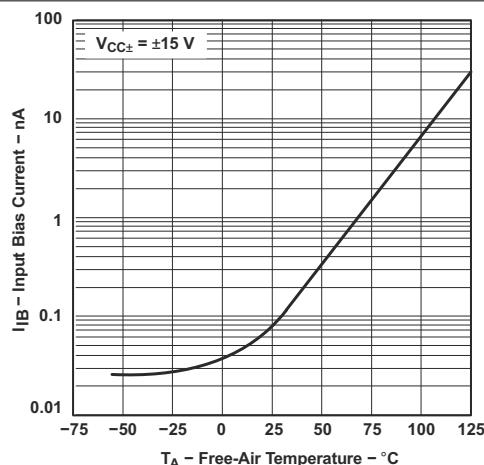

Figure 6-40. Input Bias Current vs Free-Air Temperature
- (1) Input bias currents of an FET-input operational amplifier are normal junction reverse currents, which are temperature sensitive, as shown in Figure 6-40. Pulse techniques must be used that will maintain the junction temperature as close to the ambient temperature as possible.
- (2) All characteristics are measured under open-loop conditions with zero common-mode voltage, unless otherwise specified. Full range is $T_A = -55$ °C to 125°C.